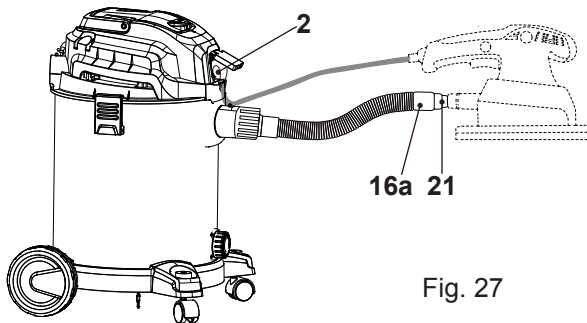

Fig. 27
This vacuum cleaner is equipped with a synchro socket (2) which allows a power tool (circular saw, drill, sanding machine, etc...) to be plugged directly into the vacuum synchro socket, and uses an automatic tool triggering feature for a clean work environment. For synchro socket operation, connect the power tool hose adaptor (21) onto the hose handle (16a) with other power tool (Fig. 27).